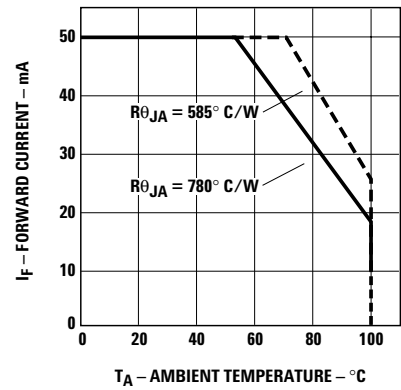

Figure 4. Maximum forward current vs. ambient temperature. Derating based on $T_{JMAX} = 130^{\circ}C$.
- Derate linearly as shown in Figure 4.